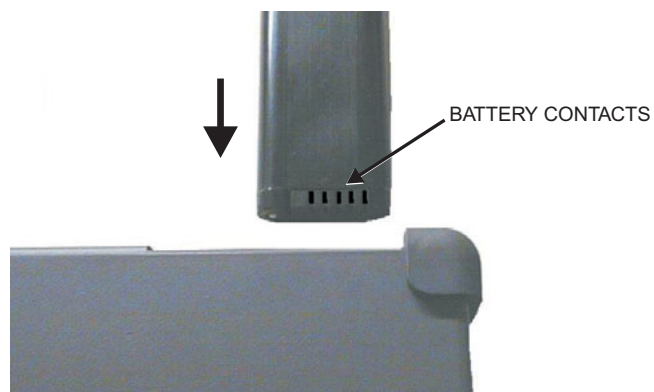

Figure 10. Battery Orientation
5. Replacement is the opposite of removal. Note the orientation of the battery contacts, and be sure to insert the new battery with the contacts facing the rear of the unit (Figure 10).